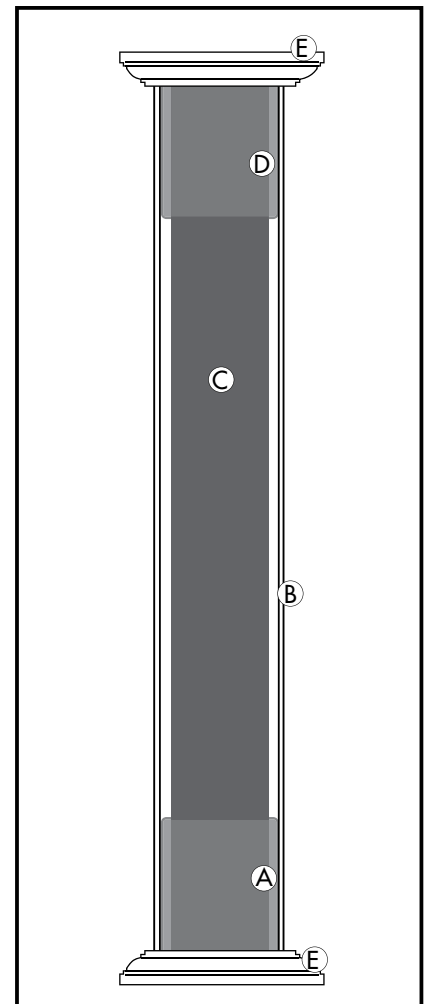

Figure 3
- 8.) Slide two vinyl trim pieces (E) (sold separately) onto post, one opening down, and one pointing up (Figure 3).